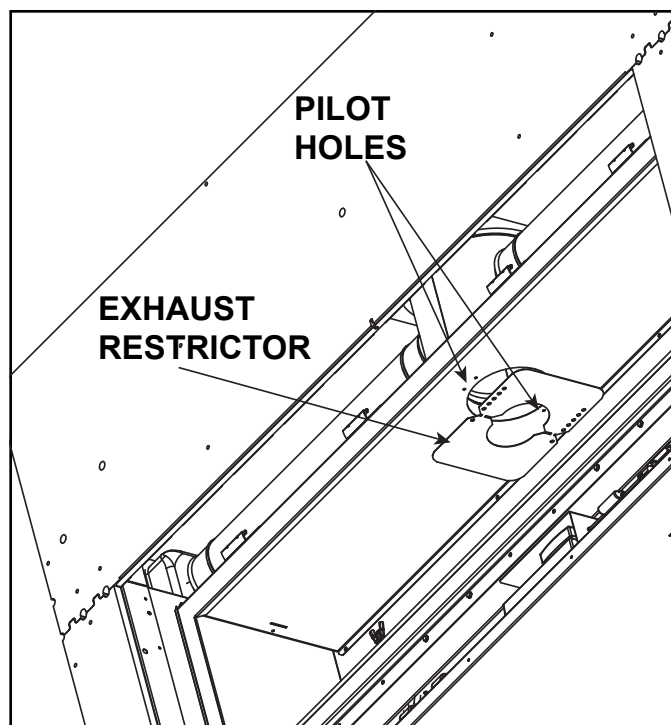

Figure 4.13 Exhaust Restrictor
1. Locate the two pilot holes in the inside firebox chamber as shown in Figure 4.13.